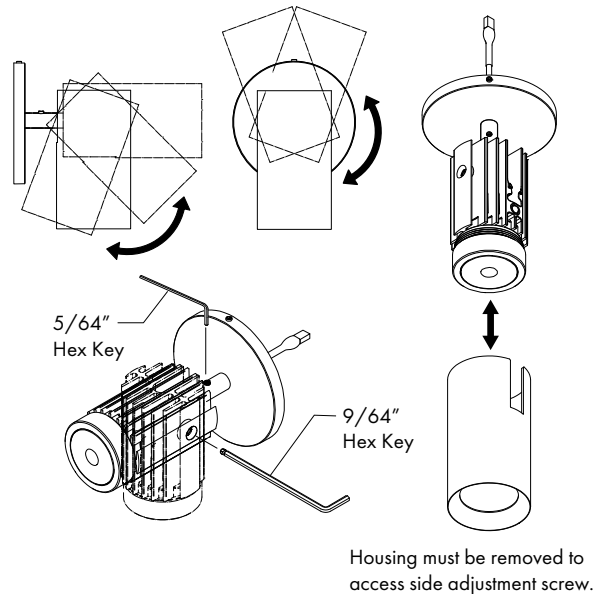

FIG 2.3 Fixture Adjustment
- STEP 4** Install Mounting Bracket after making wire connections. Position Fixture Backplate as desired & tighten set screw in Backplate - **FIG 2.3 & 2.4**.